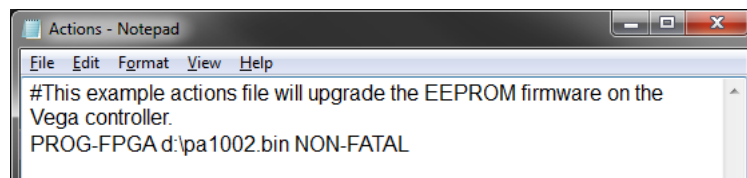

Fig 66. Example Actions.txt File to Upgrade the Vega Controller
- **Actions.txt** - Edit the Actions.txt file so that the only action is PROG-FPGA (see Fig 66.).